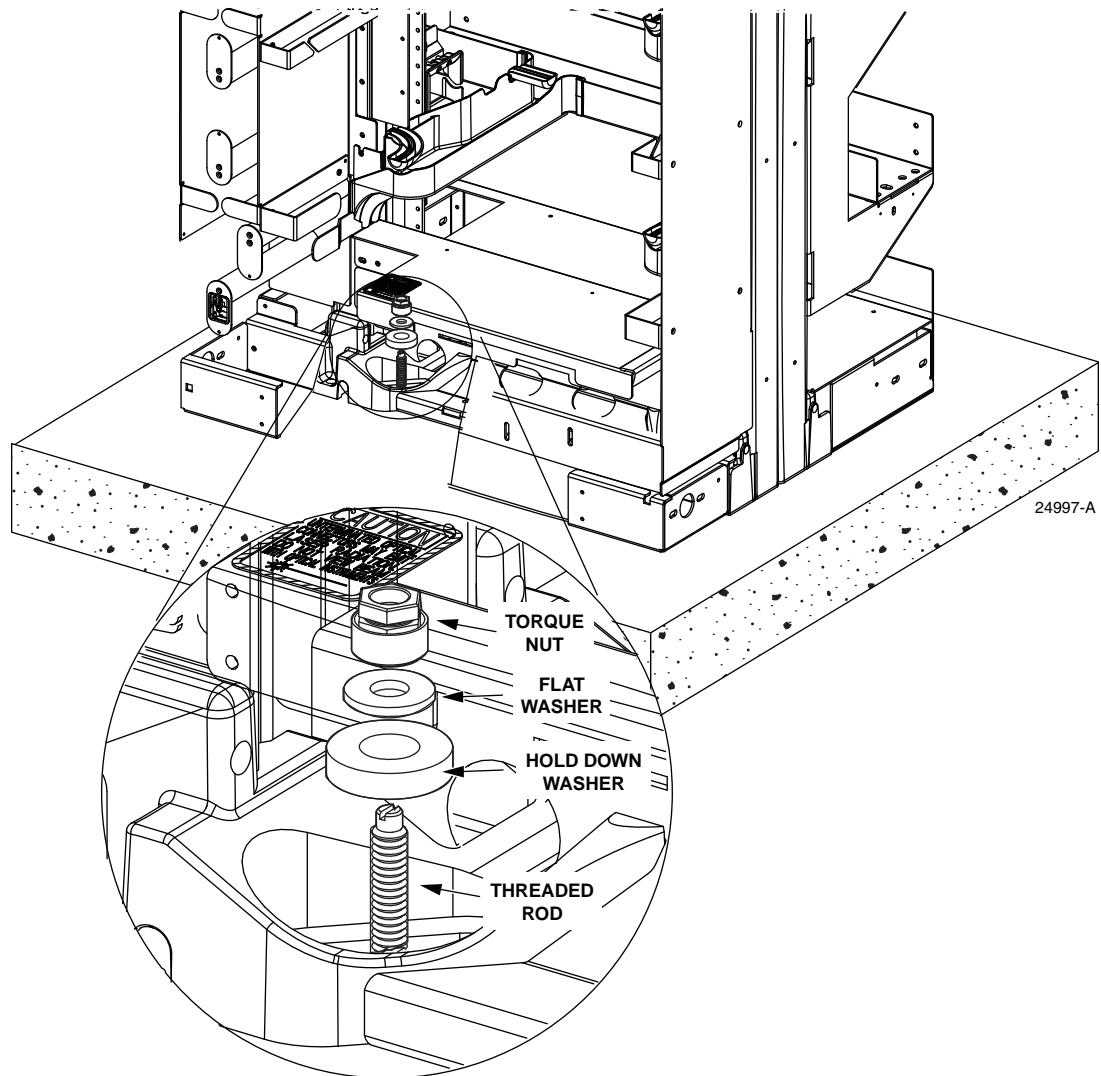

Figure 12. Assembling Hardware Onto Threaded Rods
9. Assemble the hardware provided onto the threaded rods (in four places), but do not tighten the torque nut fully. Refer to Figure 12.